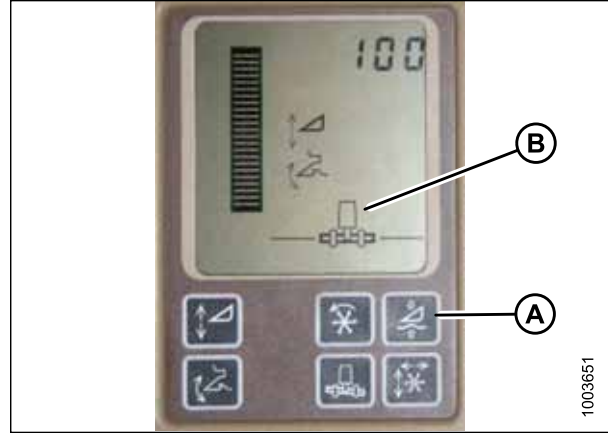

Figure 6.84: John Deere Combine Display
Do **NOT** use the active header float function (A) in combination with the MacDon auto header height control (AHHC)—the two systems will counteract one another. The header symbol (B) on the display should **NOT** have a wavy line under it and should appear exactly as shown on the Active Header Control Display in Figure 6.84, page 192.